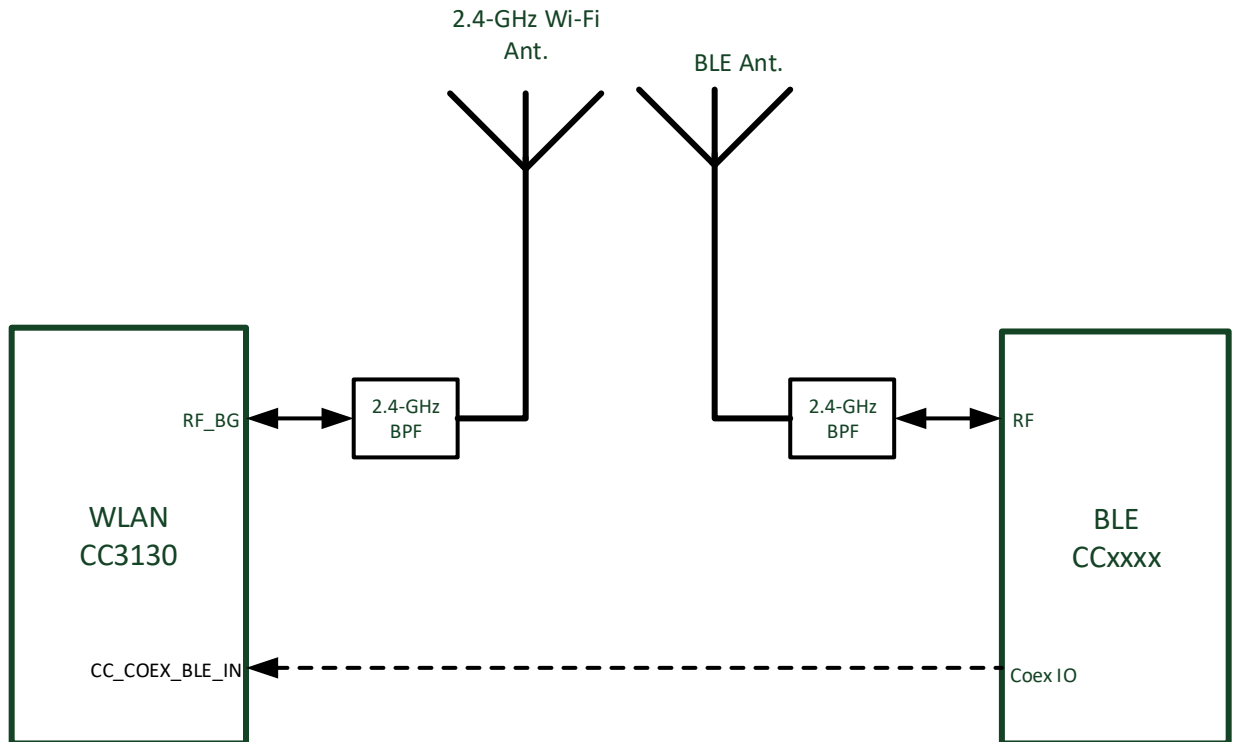

Figure 10-2. Dual-Antenna Coexistence Mode Block Diagram
- in this mode, (see Figure 10-2) the two entities have separate antennas, No RF switch is required and only a single GPIO (on input from the WLAN perspective).
Figure 10-2 shows the dual antenna implementation of a complete Bluetooth low energy and WLAN coexistence network. Note in this implementation no Coex switch is required and only a single GPIO from the BLE device to the CC3130 device is required.